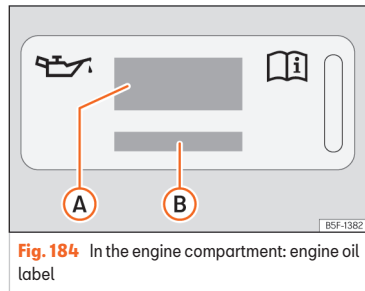
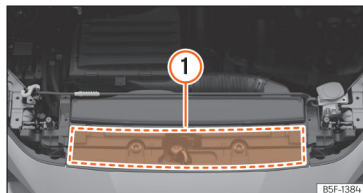

Fig. 184 In the engine compartment: engine oil label
Fig. 185 In the engine compartment: area where the engine oil label is located
Key to >>> **Fig. 184:**
If the engine oil has to be topped up, use one of the oils shown on the label »» **Fig. 184**. The label with the prescribed standard is located at the front of the engine compartment »» **Fig. 185** ①. If you use the recommended engine oil, you can top up the oil as often as necessary.
- If the label showing the engine oil specifications is missing >>> Fig. 184, please contact a specialist workshop.